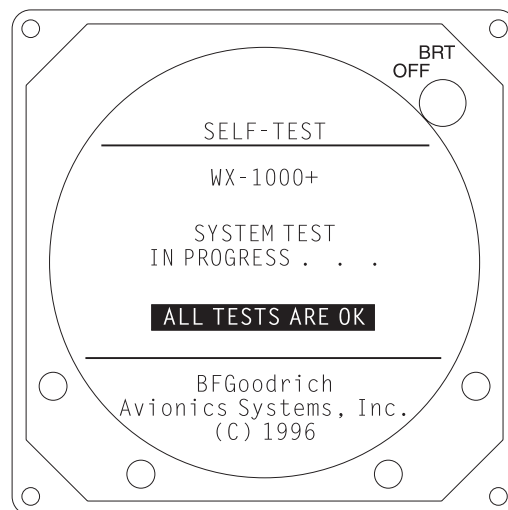

Figure 3-2. Self-Test in Progress
1. Rotate the OFF/BRT knob clockwise about 180 degrees. After approximately 15 seconds, the initialization screen (see figure 3-2) will be displayed. During initialization, the system runs a series of self-tests to ensure that all functions are operating properly. These tests are designed to check the antenna, processor, and associated hardware.